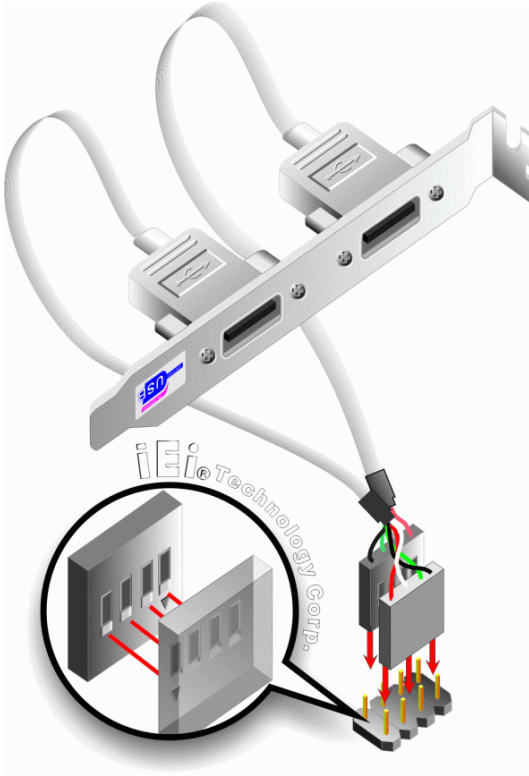

Figure 0-18: Dual USB Cable Connection
Step 3: Insert the cable connectors. Once the cable connectors are properly aligned with the USB connectors on the 2807730, connect the cable connectors to the onboard connectors. See **Figure 0-18**.